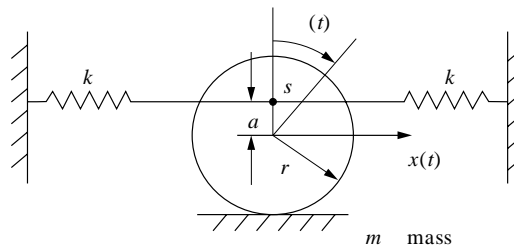

Figure P1.89
- 1.89** Consider the disk of Figure P1.89 connected to two springs. Use the energy method to calculate the system's natural frequency of oscillation for small angles $\theta(t)$.